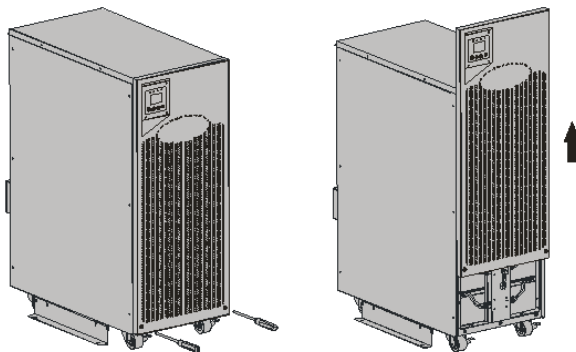

Figure 7: Removing the front cover of the UPS system
9. Remove the front cover from the UPS system and release the ribbon cable from the display of the front cover (see Figure 7).